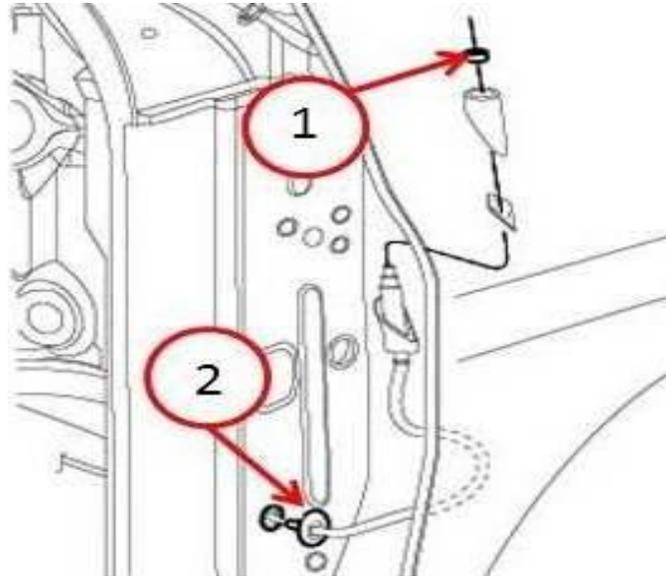

**Fig. 6 Antenna Base and Cable Assembly**
9. Remove the antenna cap nut using the Antenna Socket C-4816(Fig. 6).